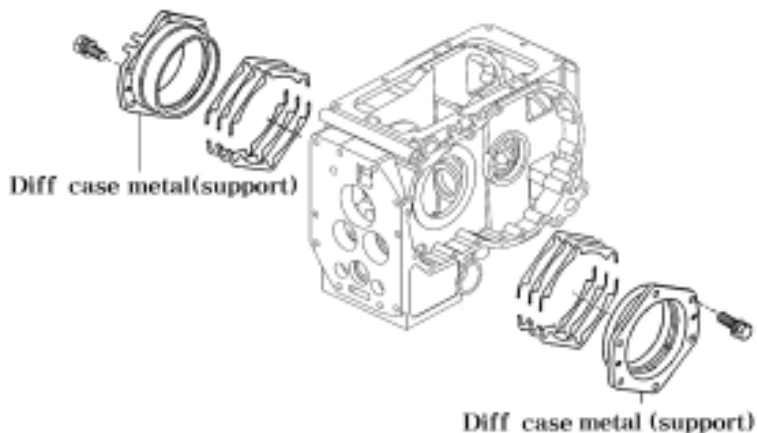

Fig.5-35
h. Backlash adjustment between the drive pinion and the ring gear pair (Fig 5-35)